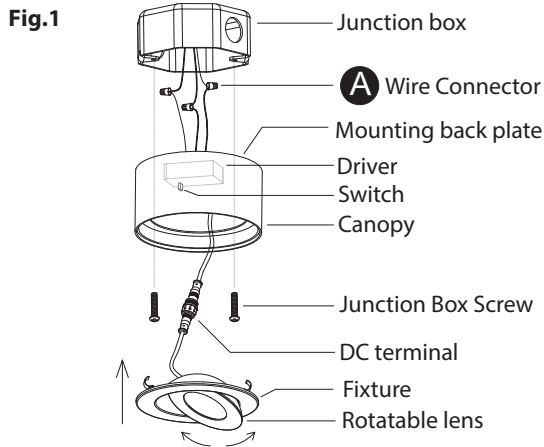

Fig.2 Wiring
CONNECTING THE WIRES (Fig. 2)
4. Connect the driver's input wires to junction box wires as shown (Fig. 2). Make sure that all wire connectors (A) are secure. If your outlet box has a green or bare copper ground wire, connect the driver's ground wire to it. Otherwise, connect the fixture's ground wire directly to the back plate using the green screw provided. After wires are connected, tuck them carefully inside the junction box.